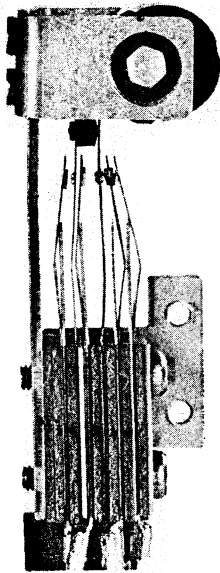

Fig. 6A - Control on Low
- Fig. 6A, 6B, and 6C show positions of contacts.